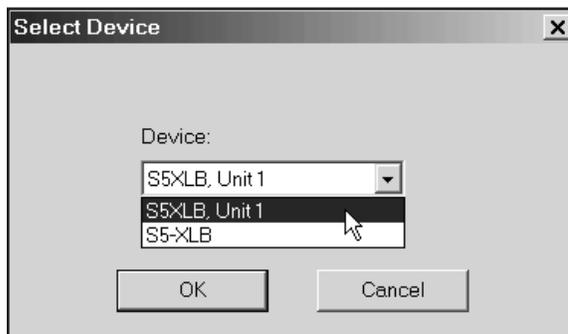

Figure 52 Select Device Dialog
1. Select **System | Alpha/Beta Amplifier Setup | Manual**. If more than one device is active on the system, select the *Device* to be setup from the Select Devices dialog box (Figure 52) and click **OK**.